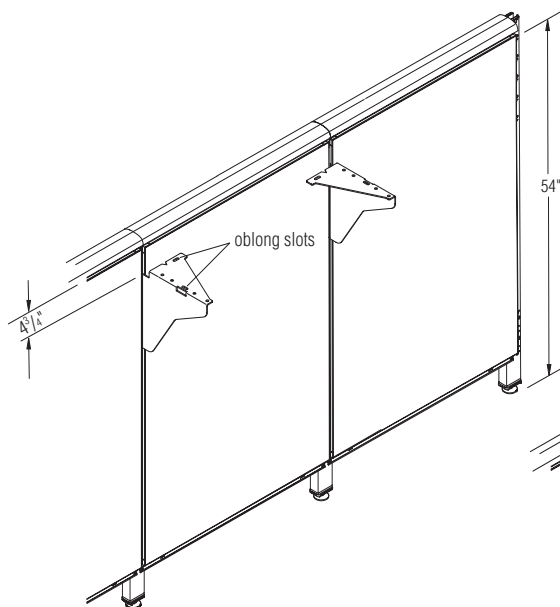

Figure 3
4. Position brackets on a 54" high WireWorks panel with the top tooth (antidislodgement) engaged in the sixth slot from the top of the uppermost tile so there is a $4\frac{3}{4}$ " space between the top of the tile and the top of the bracket. This will position the bottom of the overhead cabinet at 20" above a 29" high worksurface (Figure 3).